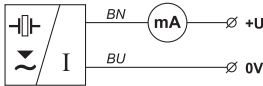

Fig. 26: Connection diagram of the ULM level meter (variant -I)
The ULM level meter or ULS sensor with a B or H type cable gland are connected to processing (display) units by means of a fixed PVC cable 5 m long. PG 11 (B) or plastic bushings with a thread for protective hoses (H) can be used as a cable gland. Connection diagrams are shown in Fig. 26, 27, 28, 29 and 30.